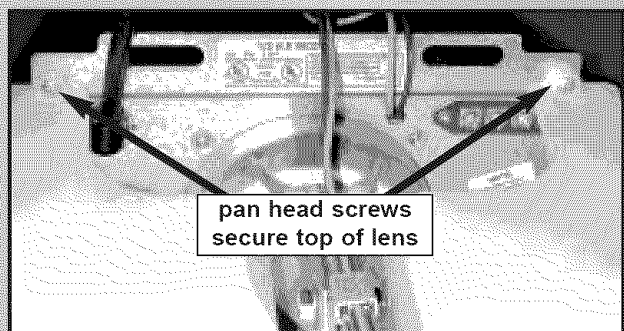

Fig. 5-2
- Lens will be fastened with 2 pan head screws. ([42] green parts bag). **Fig. 5-2.**